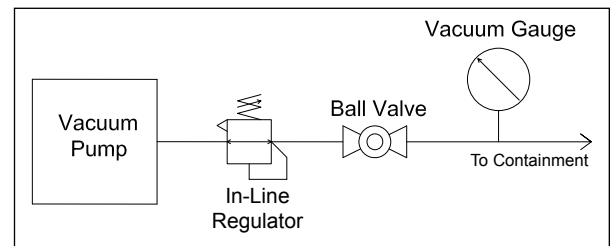

Figure 7 – Vacuum Pump Setup Diagram
- For Individual DW Turbine and Tank Sump Containments, connect the vacuum gauge as shown in Figure 7.
- For SC Pipe and Multiple Jumpered Containments, in addition to the setup shown in Figure 7, connect a vacuum gauge to the end of the last interstitial space or pipe test boot.